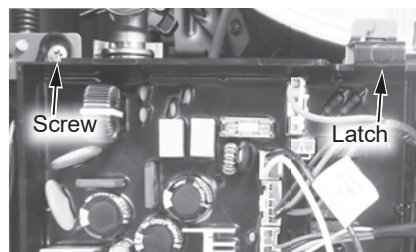

Figure 80 - Control board location
- 5 Locate the screw securing the control board panel. Use a Phillips screwdriver to remove the screw and place it aside in a safe place for reinstallation. See Figure 80.